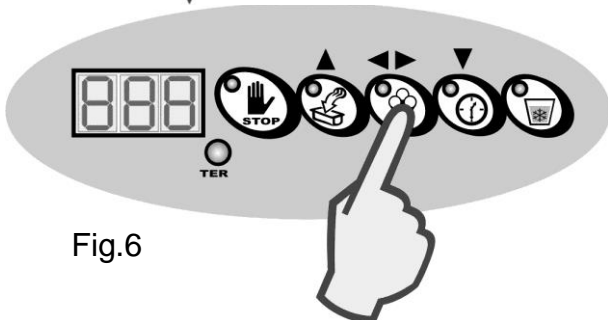

Fig.6
- Subsequently, press the Confirm key to start a new slush production cycle (fig. 6).